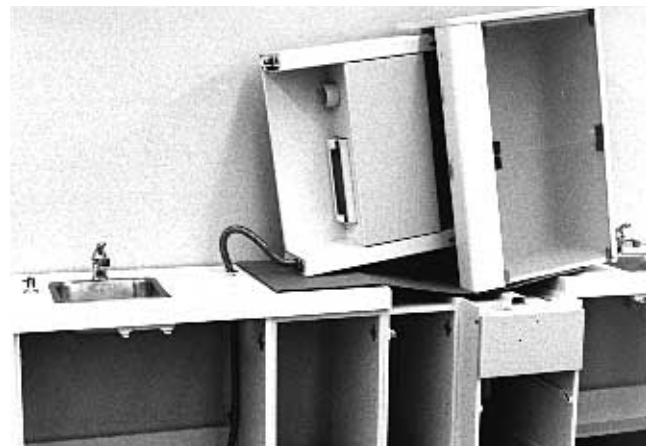

FIGURE 10
3. Lay the upper module on the cardboard and channel the electrical conduit down, into the lower module (see Figure 10).